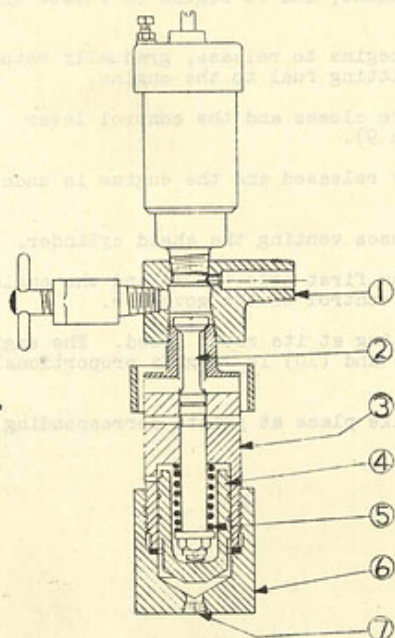

FIG. R-8
The pneumatically operated cylinder compression relief valves, illustrated in Fig. R-8, serve to relieve the pressure in the cylinders in the event that the engine becomes air bound on top center. These valves receive air from a manifold mounted just below the starting air manifold. As previously explained, the air is supplied from the flywheel brake pilot valve in the control unit. Since it is only at infrequent intervals that the operation of these valves may be required, a globe valve is placed in the line feeding the manifold, and it is recommended that it normally be kept closed. If at any time the engine refuses to start due to the cylinders being air bound, the valve should be opened while the engine control lever is at STOP, and the cylinder pressures will immediately be relieved.
Referring to Fig. R-8, valve body (3) is screwed into tee (1), which is in turn screwed into the cylinder head.